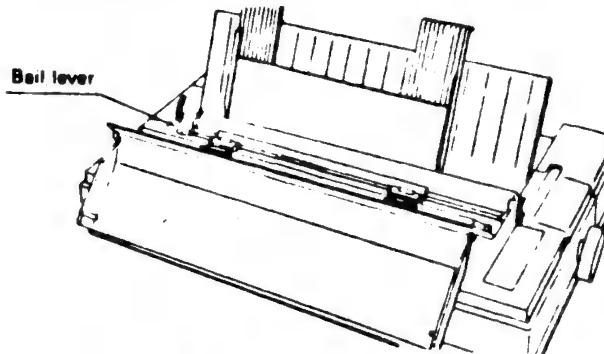

**Figure 2-13 Loading the Paper**
6. Manually turn the Platen Knob in the direction shown by the arrow in Figure 2-13, until the paper is held between the platen and the bail rollers.